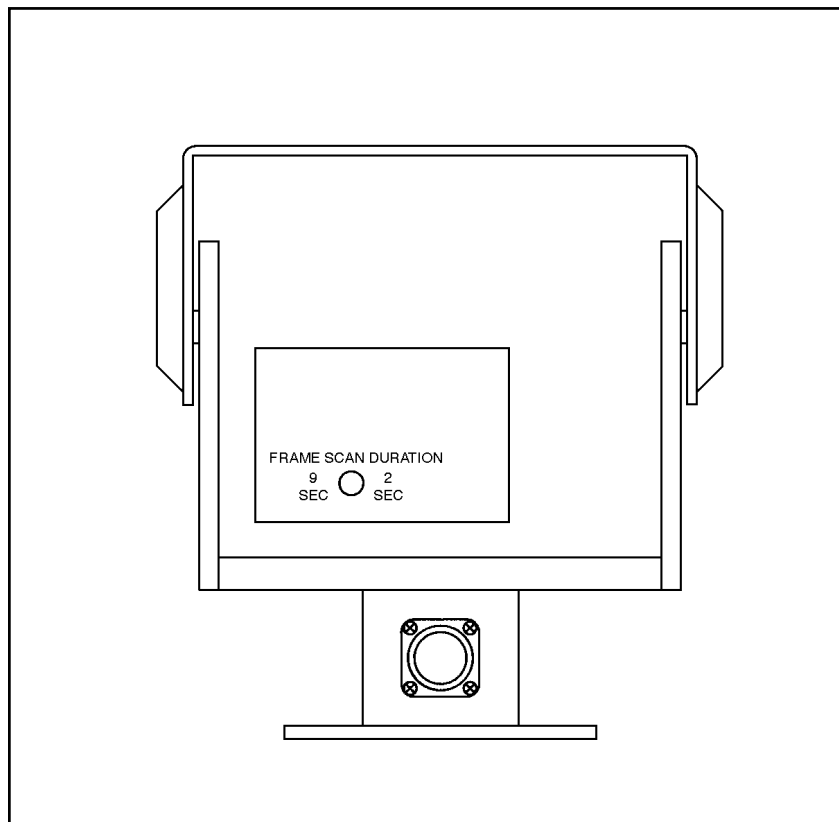

Figure 5. Frame Scan Adjustment Location
4. Adjust the scan duration by turning the potentiometer (mounted to the back of the frame scan board) clockwise to decrease the time or counterclockwise to increase the time (refer to Figure 5).